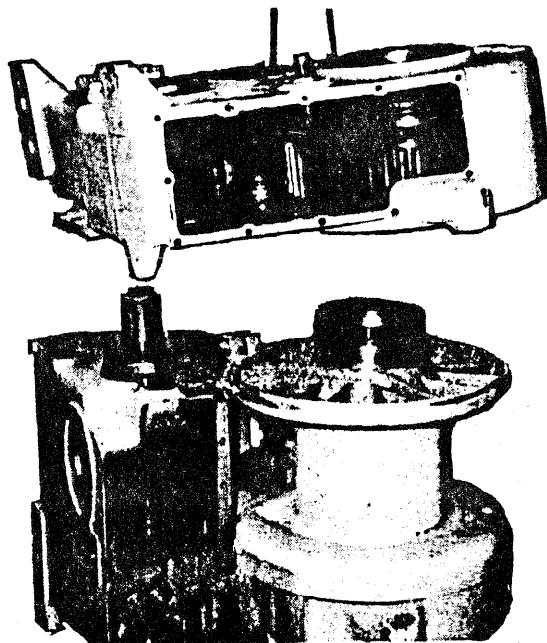

Figure 20
2. Sling side frame and lift straight up as shown in Figure 20.